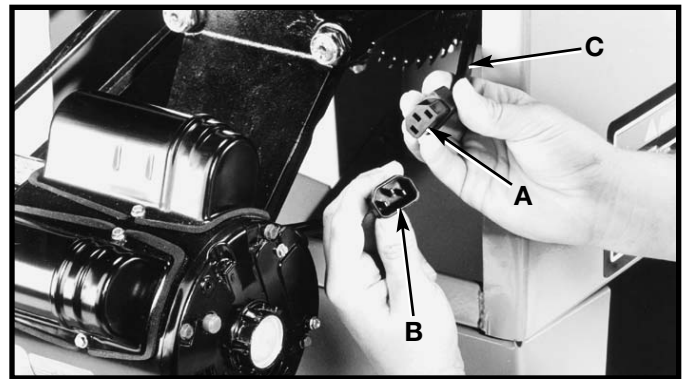

Fig. 22
1. Insert the plug (A) Fig. 22, into the female receptacle (B) of switch-to-motor cord (C).